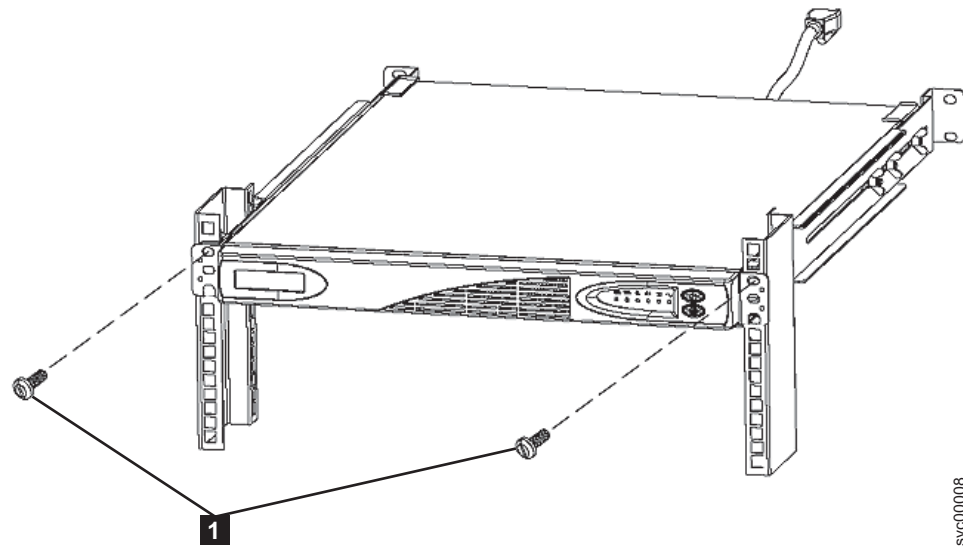

Figure 148. Removing the front screws from the 2145 UPS-1U
1. Loosen and remove the two M6 × 10 screws from each side of the 2145 UPS-1U. See **1** in Figure 148.